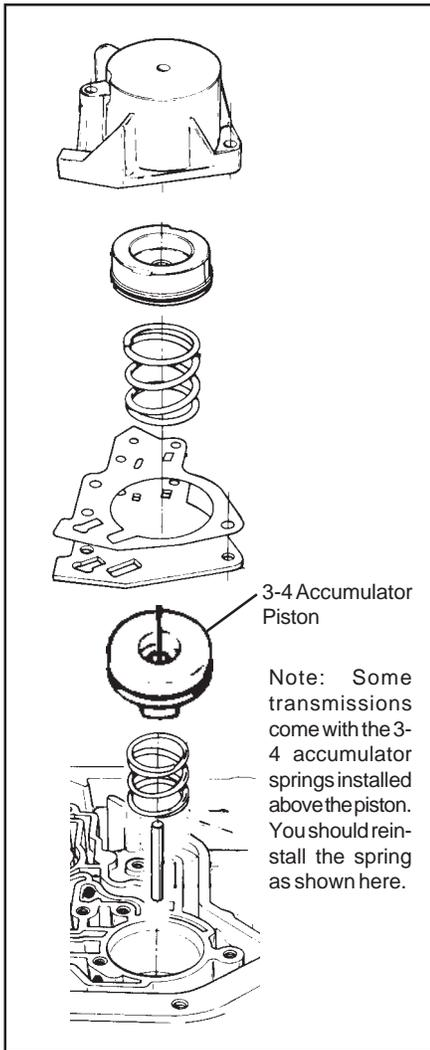

Fig. 9. Heavy Duty Level Accumulator Assembly Order.
**STEP 11. Heavy Duty Level Only;** Insert the 3-4 accumulator pin in the case. Over the pin place the spring and then the accumulator piston. Use a dab of grease or petroleum jelly to hold components in place (See Fig. 9.)
Install gasket, piston, spring and 1-2 accumulator housing in reverse order of removal. Tighten bolts finger tight (See Fig. 9.)